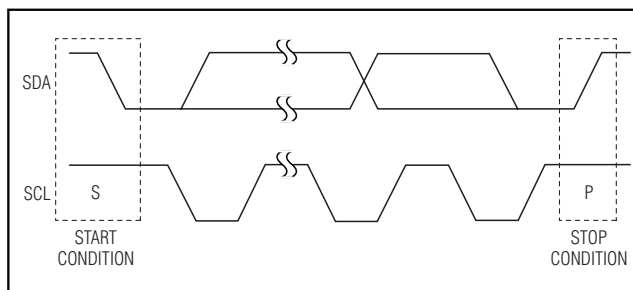
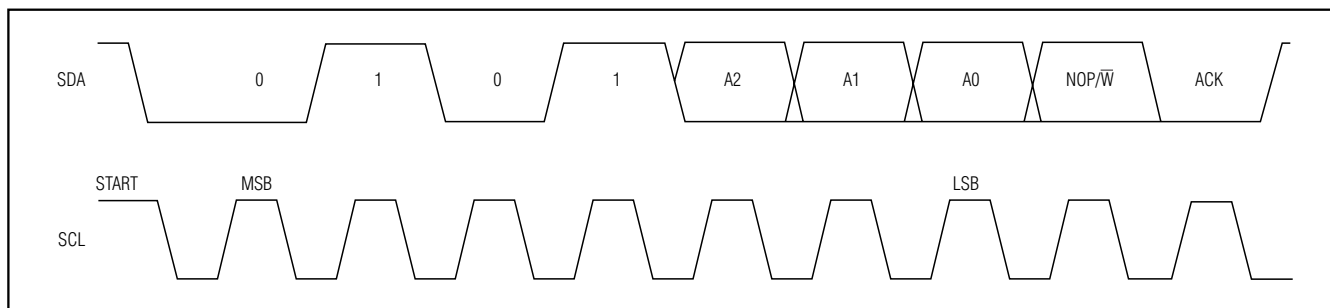

Figure 3. Start and Stop Conditions
Figure 4. Slave Address
Each transmission consists of a START (S) condition (Figure 3) sent by a master, followed by the MAX5477/MAX5478/MAX5479 7-bit slave address plus the NOP/ \overline{W} bit (Figure 4), 1 command byte and 1 data byte, and finally a STOP (P) condition (Figure 3).
communicating with the slave. The bus is then free for another transmission (Figure 3).
The MAX5477/MAX5478/MAX5479 have a 7-bit-long slave address (Figure 4). The 8th bit following the 7-bit slave address is the NOP/ \overline{W} bit. Set the NOP/ \overline{W} bit low for a write command and high for a no-operation command.